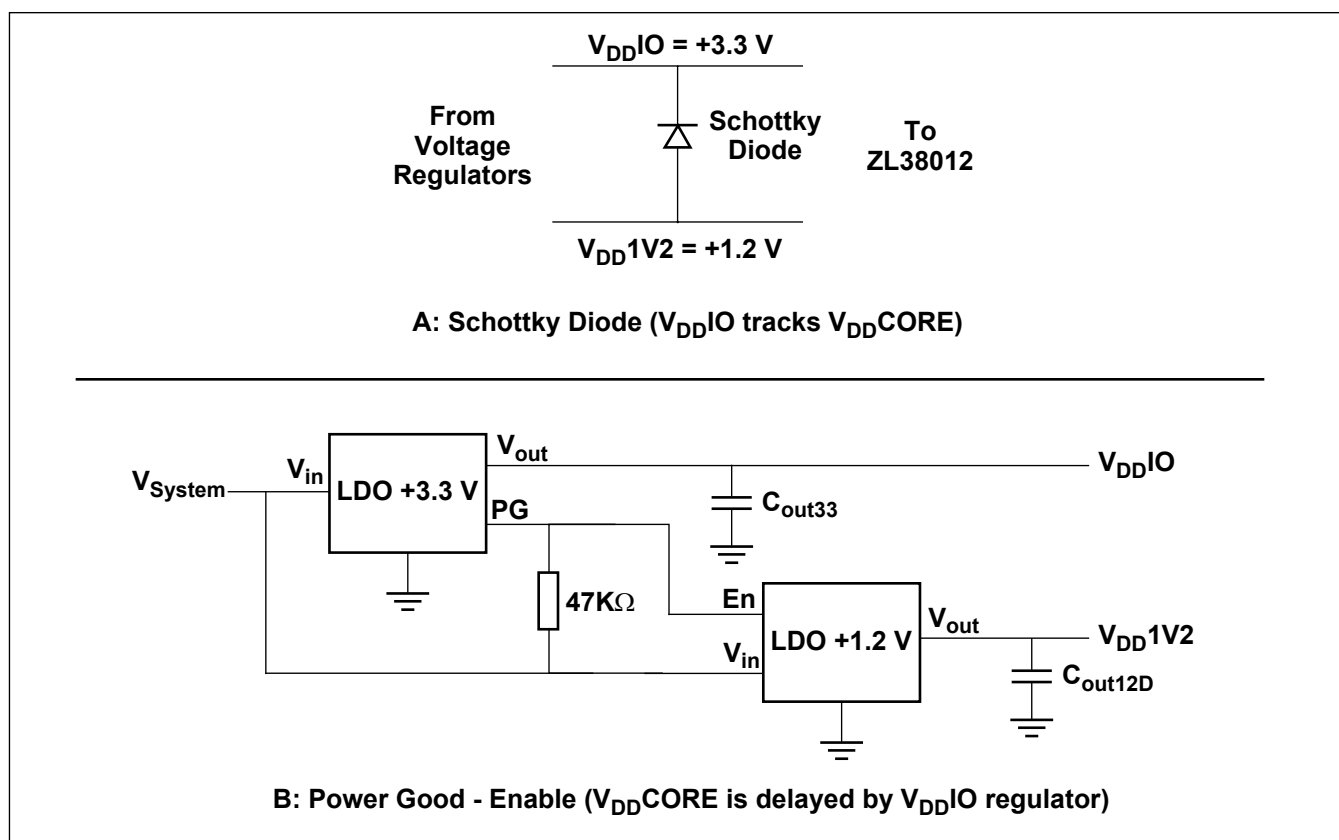
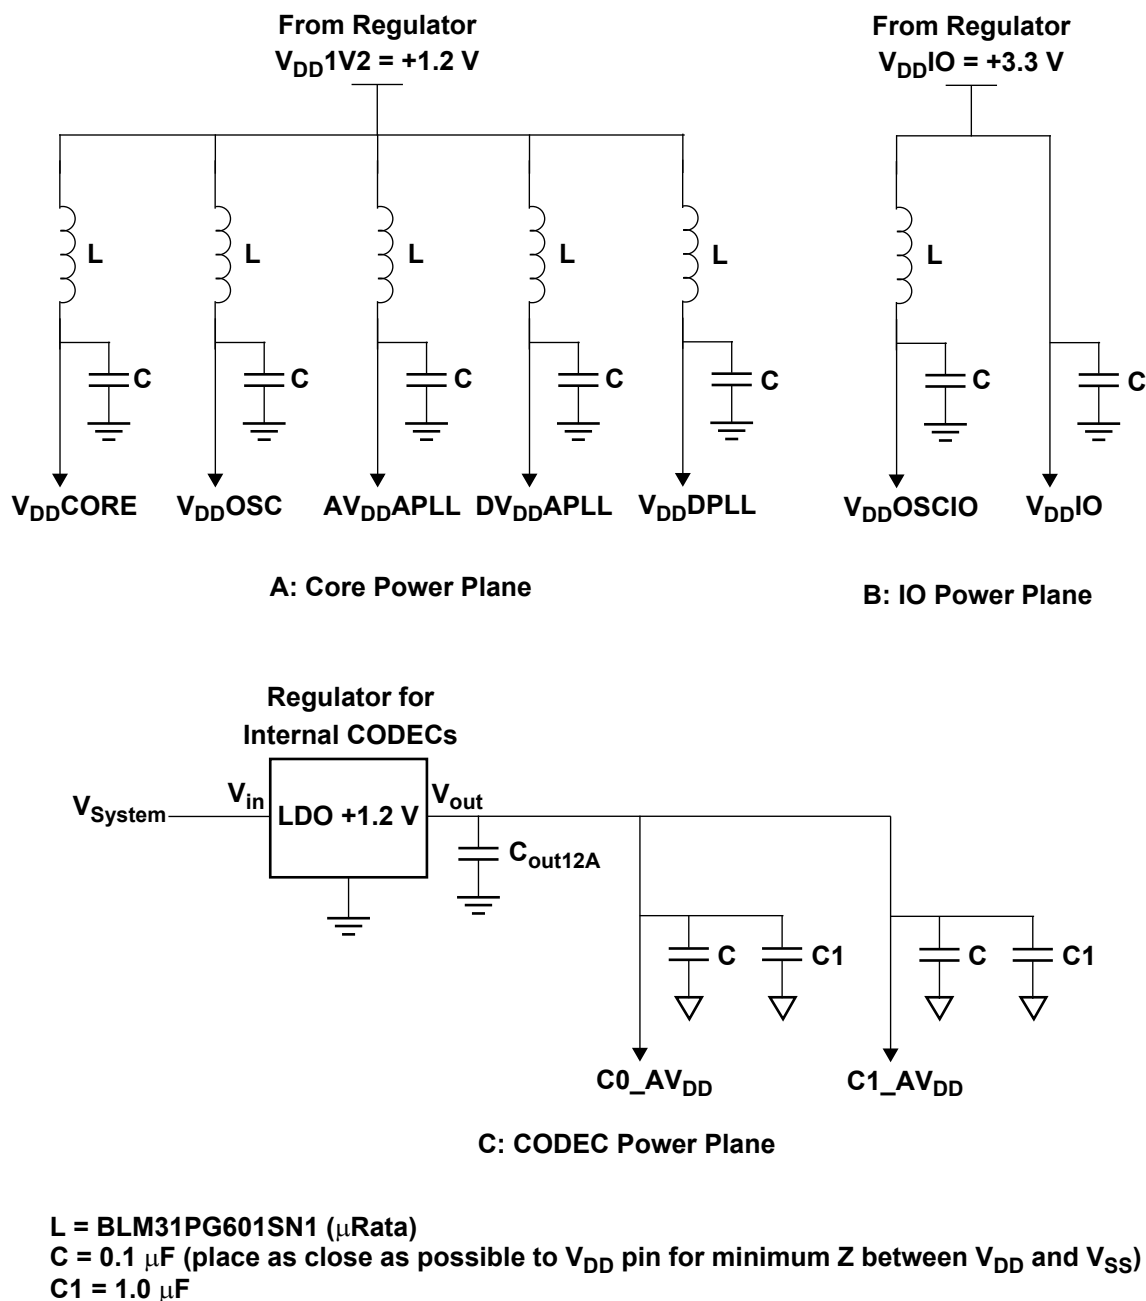

Figure 54 - Latch-Up Prevention Circuit Options
Figure 55 - Power Supply Isolation
The ZL38012 requires external latch-up protection between the V_{DDIO} and V_{DDCORE} supplies. That is, the V_{DDCORE} voltage must not exceed V_{DDIO} voltage during power up and power down. Figure 54 illustrates two options (A & B) to meet this requirement. Option A uses a Schottky diode forward biased between V_{DD1V2} (V_{DDCORE}) and V_{DDIO} . This ensures that the core voltage will never exceed the IO voltage by more than a few hundred millivolts, which is sufficient to meet the ZL38012 latch-up requirement.
An ZL38012 application should be designed with three separate isolated power planes as shown in Figure 55 (i.e., A: Core Power Plane; B: IO Power Plane; and C: CODEC Power Plane). Isolation is provided through separate voltage regulators that supply each plane, see also Figure 54. Each one of the Core supply pins ($V_{DD}CORE$, $V_{DD}OSC$, $AV_{DD}APLL$, $DV_{DD}APLL$ and $V_{DD}DPLL$) are further isolated from each other using inductors (L). The $V_{DD}OSCIO$ of the +3.3 V plane is isolated from the other IO supply pins using an inductor L as well.
The capacitors C are 0.1 μF ceramic decoupling capacitors, which should be placed as close as possible to the V_{DD} pins to minimize impedance from V_{DD} to V_{SS} . Capacitors C1 are 1.0 μF ceramic bypass capacitors. The value of Cout12A and additional capacitors from V_{System} to system ground are to be selected based on the system design requirements and selected voltage regulator stability requirements. Figure 55 also shows an example component number and manufacturer for L.
It should be noted that the isolation illustrated in Figure 55 may not be necessary for all applications. It is presented here as good engineering practice and a place to start. Also, the ground symbols used in Figure 55 should not be interpreted to mean that separate analog and digital ground planes are required for the ZL38012. A single (analog and digital) ground plan is adequate for the vast majority of applications. This is the case as long as the ground plane is homogeneous so that relatively large ground return currents are not forced through narrow channels.